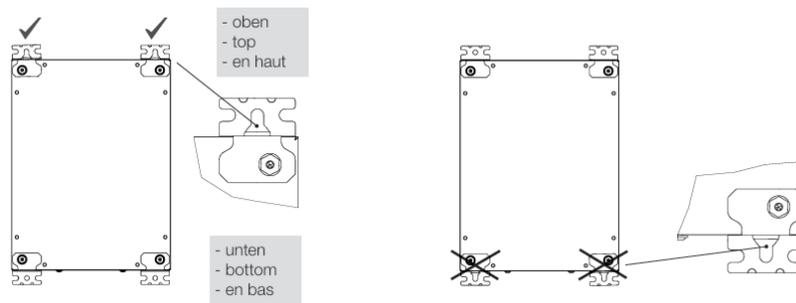

Figure 3: Instructions
- Place the bracket on the hole and screw it in with the screws provided (SW13,TX30). Make sure they are facing the right way so that the flat surface does not stick out over the edge of the cabinet. (see Figure 3)